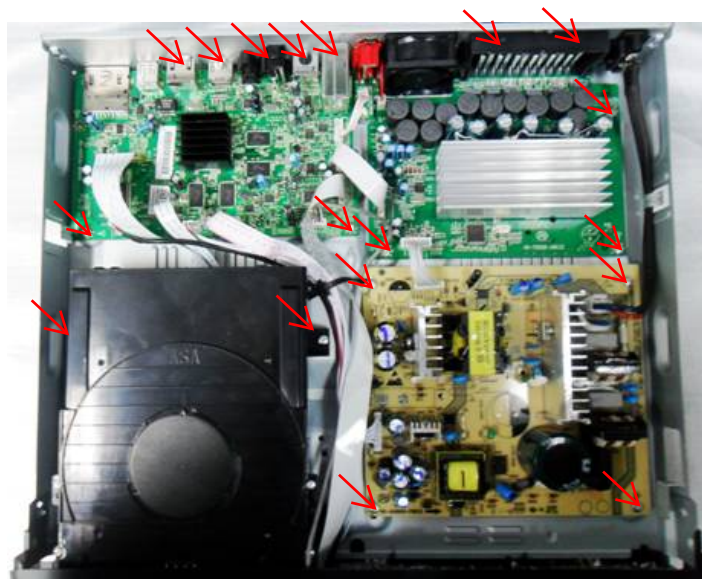

Figure 5
Step5: Dismantle Loader, disconnect the 3 connectors (XP7, XP10,XP5) aiming in the below figure, and remove 2 screws that connects the loader and the bottom cabinet. (Figure 5)
Step6: Dismantle Main Board, first disconnect 3 connector (XP1,XP11,XP13), and then remove 7screws. (Figure 5/6)
Step7: Dismantle Power Board, disconnect the connector XP702 ,then remove 4 screws.(Figure 5/6)
Step8: Dismantle Amplifier Board, first disconnect 1 connector(XP703),and then remove 5 screws (Figure 5/6)